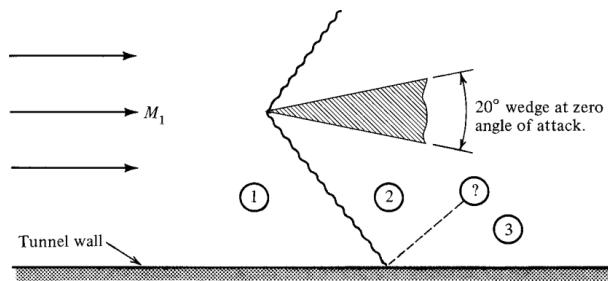

Figure P7.15
- 7.15** For the flow situation shown in Figure P7.15, $M_1 = 1.8$, $T_1 = 600$ °R, $p_1 = 15$ psia, and $\gamma = 1.4$.